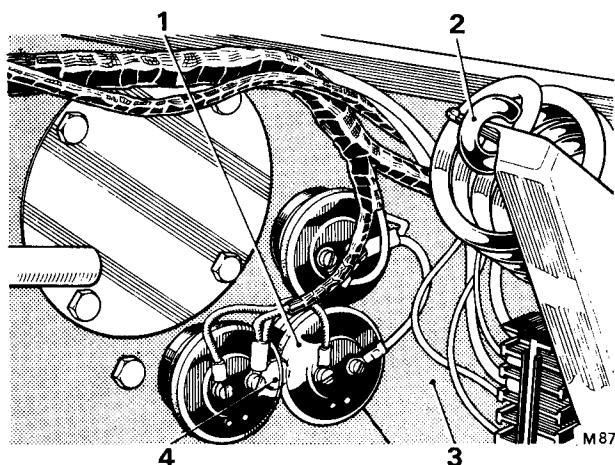

FIG. U9 SETSCREWS SECURING CONTROL CANISTER AND ACCESS COVER
valance, adjacent to the blower motor resistances (see Fig. U9).
6. Inside the engine compartment adjacent to the blower motor resistances (*see Fig. U9*), locate the six $\frac{7}{16}$ in. A/F setscrews. Unscrew the lower four setscrews and withdraw the canister from beneath the wing.